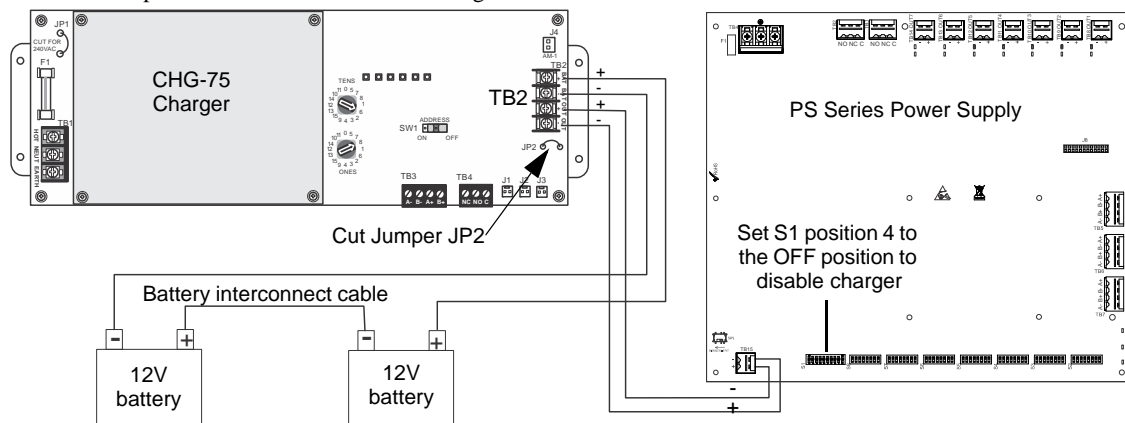

Figure 2.10 Connecting the Power Supply to a CHG-75 Charger
2. Connect the battery cables between TB15 (+ and –) on the HPF-PS and the CHG-75 charger output circuit (TB2: Out+ and Out–) as shown in Figure 2.10. Be certain to observe polarity.